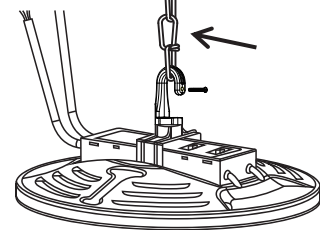

FIG 1.3
2. Hang on the sling, then lock in the screw (FIG 1.3);